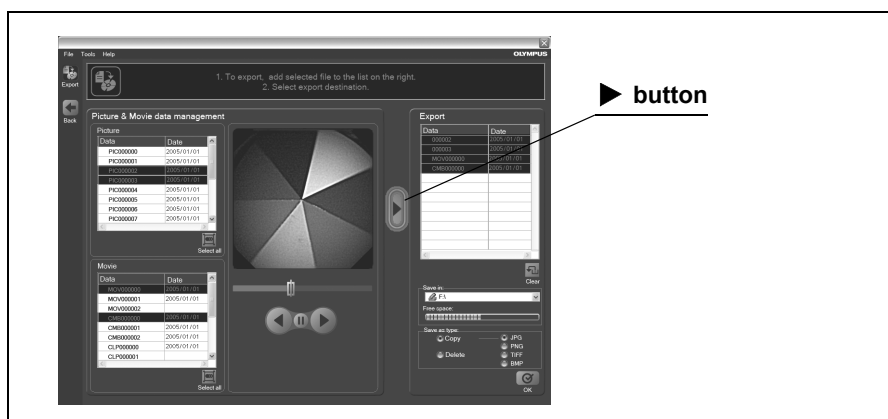

Figure 6.117
4. Click the [▶] button to add the picture and/or movie files you wish to export to the export list from the picture list or the movie list (see Figure 6.117).